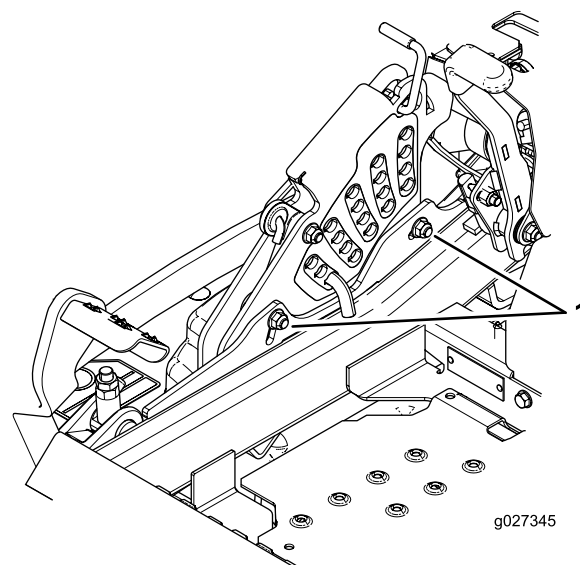

Figure 94
11. To adjust the single point system, loosen the two bolts at the bottom of the height of cut plate. Refer to Figure 94.
13. Tighten the two bolts at the bottom of the height of cut plate (Figure 94). Torque to 37-45 N-m (27-33 ft-lb).